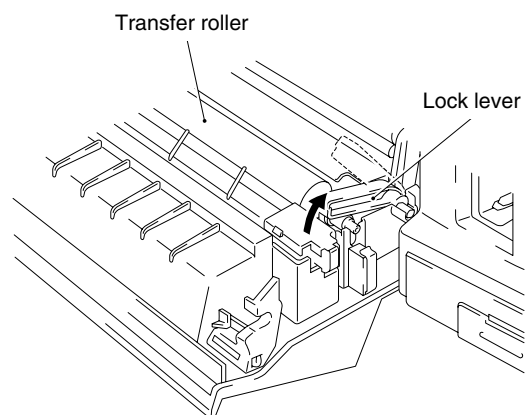

Fig. 6-20
- (2) Pull up the transfer roller to remove it. (Fig.6-20)
- (3) Install a new transfer roller into the printer.
- (4) Fix the transfer roller with the lock levers.